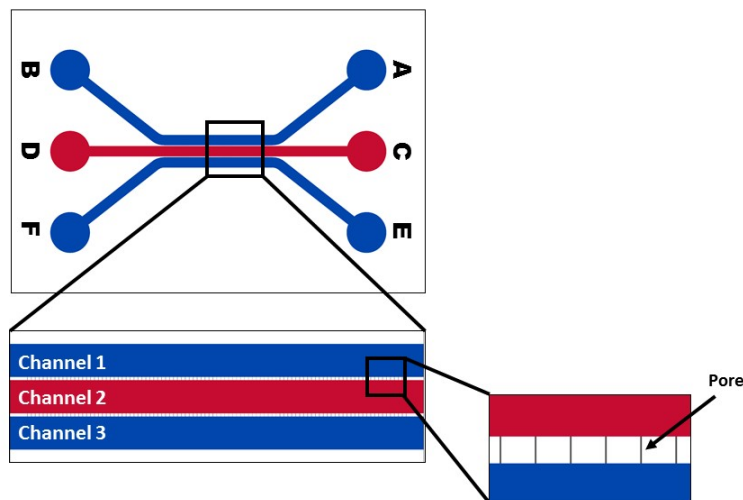

Figure 1. A schematic of inlet and outlet ports A-F on a SynVivo linear device.
2. Carefully flush the endothelial channel (e.g. Channel 1 or 3; **Figure 1**) with fresh serum-free media prior to the start of the assay.
1. Place a drop of liquid beside the inlet tubing of the center channel (**Figure 1**; Channel 2).